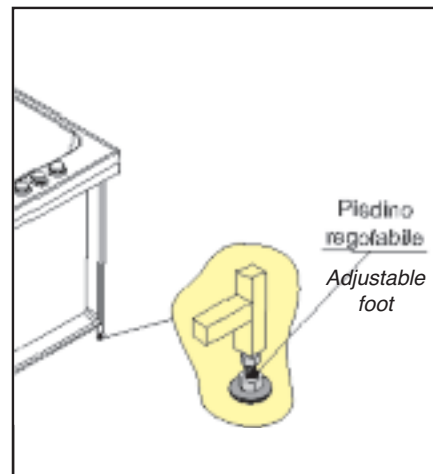

Fig.1
2. Assicurarsi che la vasca sia livellata, agire sui 7 piedini regolabili per le necessarie regolazioni (Fig. 1). Lasciare almeno 2 mm dal pannello frontale al pavimento.
2. Check the level of the bathtub and adjust it with the 7 adjustable feet (fig. 1). Leave at least 2mm from the front panel to the floor. Do not fix the bathtub yet. It is important to check that there are no movements of the bathtub when it is positioned, to avoid water leaks from the door.